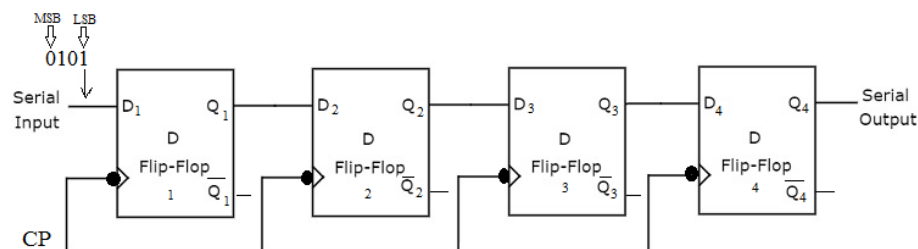

Fig.1. Logic diagram of a 4-bit SISO right shift register
(a) SISO right shift register: This type of shift register accepts data serially i.e. one bit at a time and also outputs data serially by shifting every output data of individual flip-flops (FFs) in right direction. Fig.1 is showing the logic diagram of a 4-bit serial in serial out right shift register for storing 4 bit where 4 numbers of FFs are connected together and the output of one flip-flop is connected to the input of next FF. Here we are using D flip-flop using negative edge triggered clock pulse. When serial data is transferred to the second register, each new bit is clocked into the first FF at the negative-edge of each clock pulse. The bit that was previously stored by the first FF is transferred to the second FF. The bit that was stored by the last FF is shifted out.
(b) SISO left shift register: This type of shift register accepts data serially i.e. one bit at a time and also outputs data serially by shifting every output data of individual flip-flops (FFs) in left direction. Fig.1 is showing the logic diagram of 4-bit serial in serial out left shift register for storing 4 bit where 4 numbers of flip-flops are connected together and the output of one flip-flop is connected to the input of next flip-flop. Here we are using D flip-flop using negative edge triggered clock pulse.
(II) Serial in Parallel out shift Register (SIPO): This type of shift register accepts data serially i.e. one bit at a time and outputs data parallelly. Fig.1 is showing the logic diagram of 4-bit serial in parallel out shift register for storing 4 bit data. This circuit consists of four D flip-flops, which are cascaded. That means, output of one D flip-flop is connected as the input of next D flip-flop. All these flip-flops are synchronous with each other since, the same clock signal is applied to each one. Here we are using D flip-flop by considering negative edge triggered clock pulse.
(III) PISO Parallel in Serial out shift Register (PISO): This type of shift register accepts data parallelly and outputs data serially. Fig.1 is showing the logic diagram of 4-bit parallel in serial out shift register for storing 4 bit data where 4 numbers of flip-flops are connected together by a common clock pulse. The output of one flip-flop is connected to the input of next flip-flop by using some combinational logic circuit. Here we are using D flip-flop using negative edge triggered clock pulse.
(IV) Parallel in Parallel out shift Register (PIPO): This type of shift register accepts data parallelly and outputs data parallelly. Fig.1 is showing the logic diagram of 4-bit parallel in parallel out shift register for storing 4 bit data where 4 numbers of flip-flops are connected together by using a common clock input pulse. Here we are using D fli-flop.